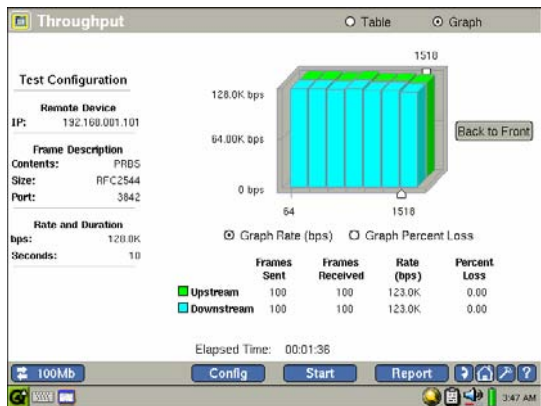

Figure 20. Throughput Test Results
During the test, both instruments simultaneously transmit packets to each other at a user-configurable bit rate for a specified duration. When the test is completed, the local instrument displays results for both the local and remote units (see Figure 20).
5. To see results displayed graphically (see Figure 20), tap **Graph** (located in the title bar).